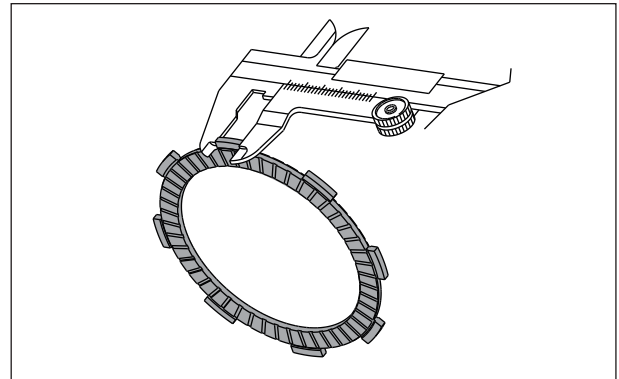

Fig. 3.17
- Similarly, inspect the claw width of plate clutch drive using a vernier caliper. (Fig. 3.17). If the claw width is less than the service limit, change the plate clutch drive as a set.